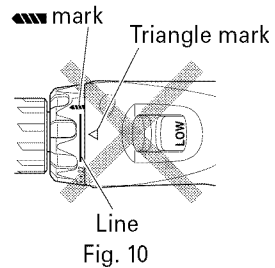

Fig. 10
- Do not use with the clutch dial set at the line between the number "22" and the drill mark "▲". Doing so may cause damage (See Fig. 10).